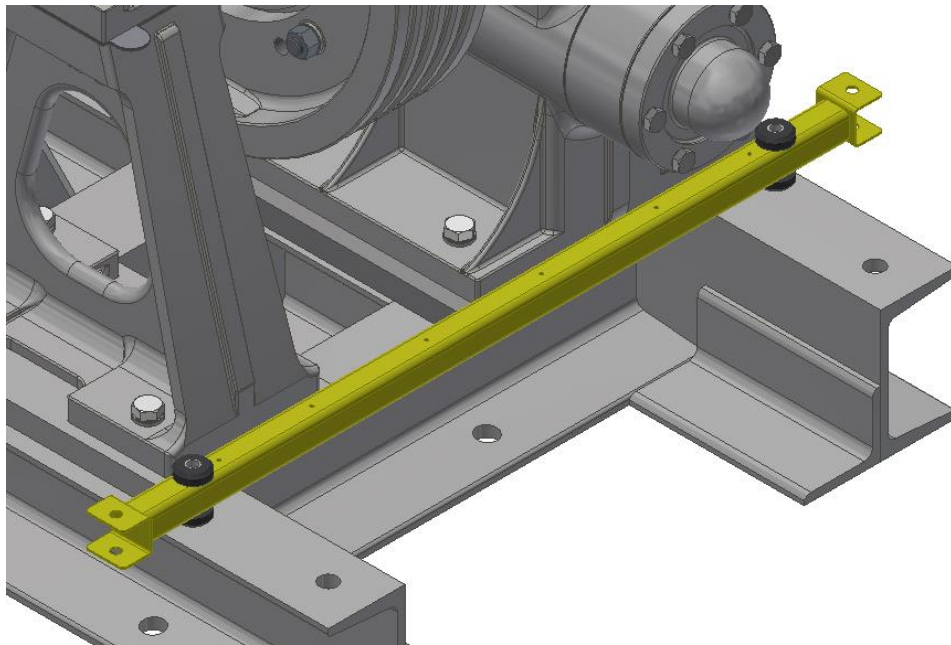

Figure 6: Machine Guard Mounting Tube Placement
- Position Machine Guard Mounting Tube (p/n _ _-233) on the Overhead Traction Machine base. The Machine Guard Mounting Tube (p/n _ _-233) should be placed as close as possible but still clear the lower housing and A-stand. The tube should be placed so the Machine Guard Isolators (p/n 34-262) are vertical and the same distance from the edge of the base as the Guard Corner Mounting Tube Assembly (p/n _ _-244). Reference the figure below for proper tube placement (Figure 6).